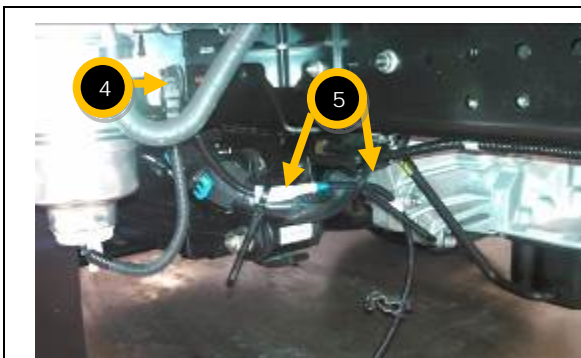

Figure 17 – Wiring Harness Connection and Routing
4. Connect wiring harness extension and clip to bracket (see Figure 17).
5. Band clip/zip tie harnesses into place at two (2) points (see Figure 17).